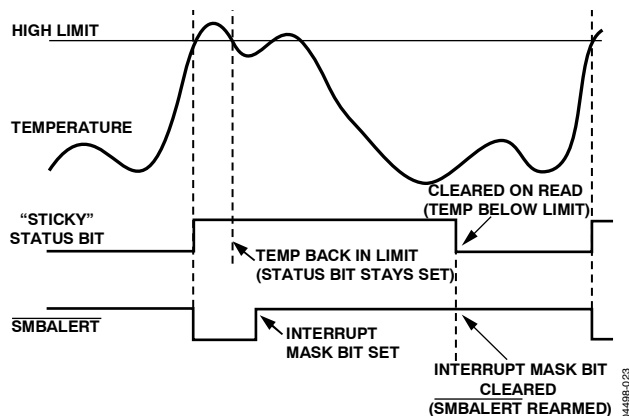

Figure 29. Effect of Masking the Interrupt Source on SMBALERT Output
7. Periodically poll the status registers. If the interrupt status bit has cleared, reset the corresponding interrupt mask bit to 0. This causes the SMBALERT output and status bits to behave as shown in Figure 29.